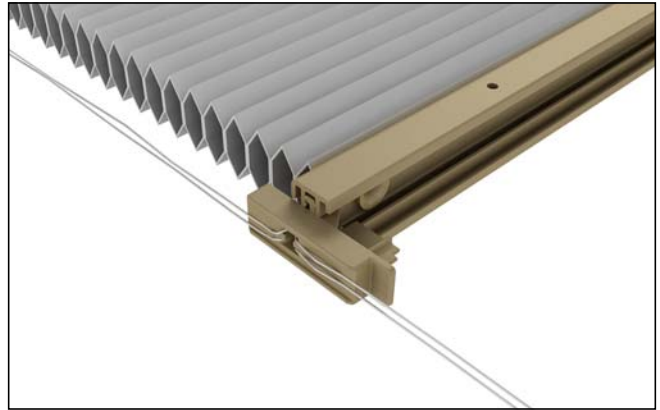

Figure 7
2. Pull the chain ends of cord tight through the pull bar. See figure 7.